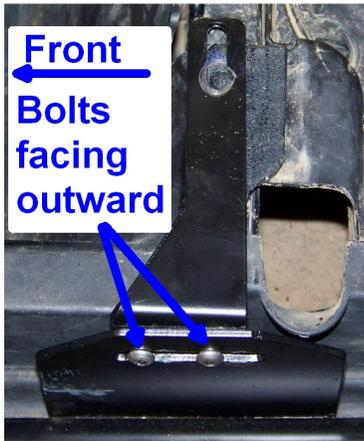

Figure 7: Center Bracket Orientation on Door
Determine the correct orientation of the center brackets (*see figure 7*) and loosely attach them with the supplied Allen head bolts and locknuts. **Do not fully tighten them yet.**
Note: The bracket should be installed with the angled surface toward the front of the vehicle, with the bolt slots down. It is recommended to install the bolts with the locknuts facing inward, toward the vehicle (see figure 7).
- Line up the center brackets and put the factory Torx T27 bolts back into the center area (*see figure 7*). **Do not fully tighten them yet.**
- Moving the center bracket inward and outward on its slot can make a big difference in how the door frame fits against the RZR body. The bracket can also move forward and backward in additional slots to find the right fit (*see figure 7 on previous page*).